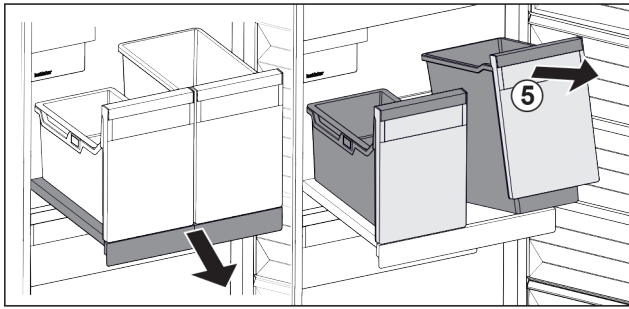

Fig. 95
- ▶ Lift the container Fig. 95 (5) at the front.